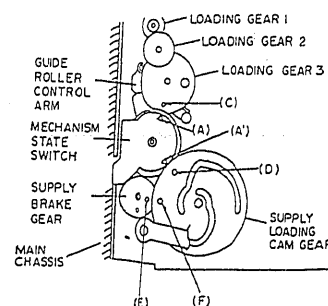

Fig. 3-2
- Reinstall the components into the main chassis in the condition after step 1). Align mark (C) and the loading gear (3) and mark (A) on the mechanism state switch at this time. (See Fig. 3-2)
- Reinstall the supply loading cam gear into the main chassis so that mark (E) on the supply brake gear and mark (F) on the supply loading cam gear are aligned. (See Fig. 3-2)